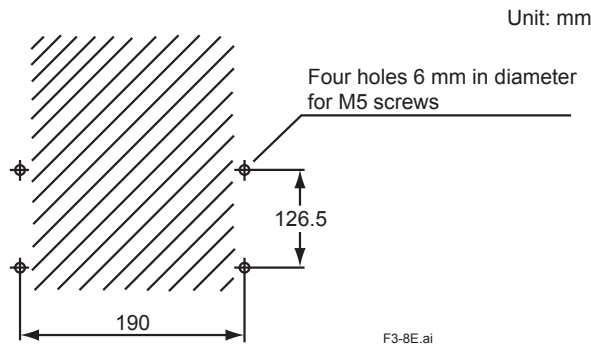

Figure 3.10 Mounting holes
- (1) Drill mounting holes through the wall as shown in Figure 3.10.